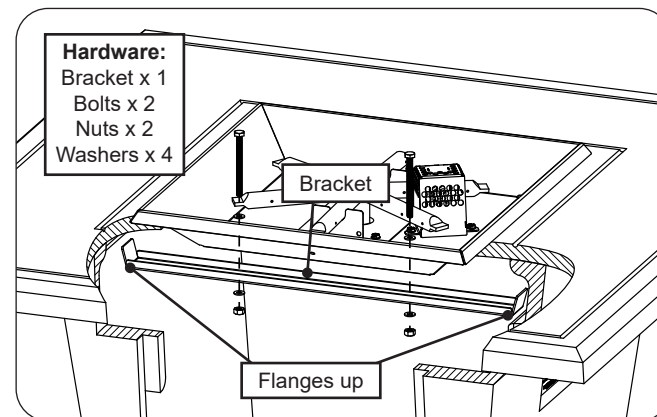

Fig. 35-4 Install bracket
7. Locate the supplied support bracket and install as shown in Fig. 35-4. The bracket must be inserted into the enclosure through the door opening, aligned with the holes found on the burner pan, and fastened with a 1/2" wrench and the supplied bolts (2), nuts (2), and washers (4).